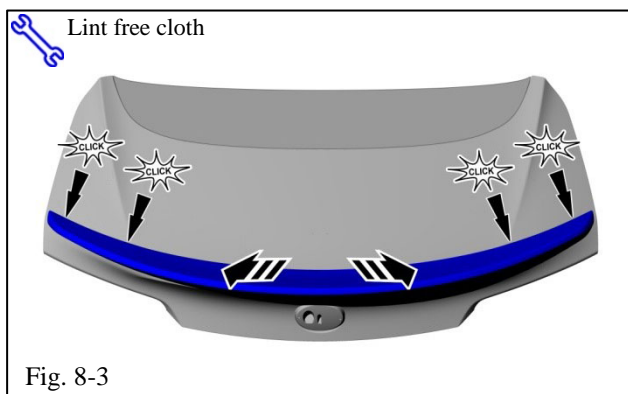

Fig. 8-3
- (e) Use a lint-free cloth to apply 15 lbs. of pressure to the spoiler to ensure the adhesive tape contacts the trunk lid around the entire perimeter of the part. Apply pressure starting from the center and move outboard (Fig. 8-3).
- (f) Ensure the clips are engaged with a “click” sound at the 4 clip locations (Fig. 8-3).